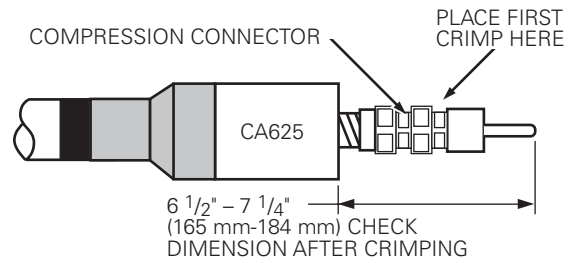

Figure 6. Install compression connector.
- After crimping, the distance from the cable adapter to the end of the compression connector must be between 6-1/2" and 7-1/4". Refer to Figure 6.